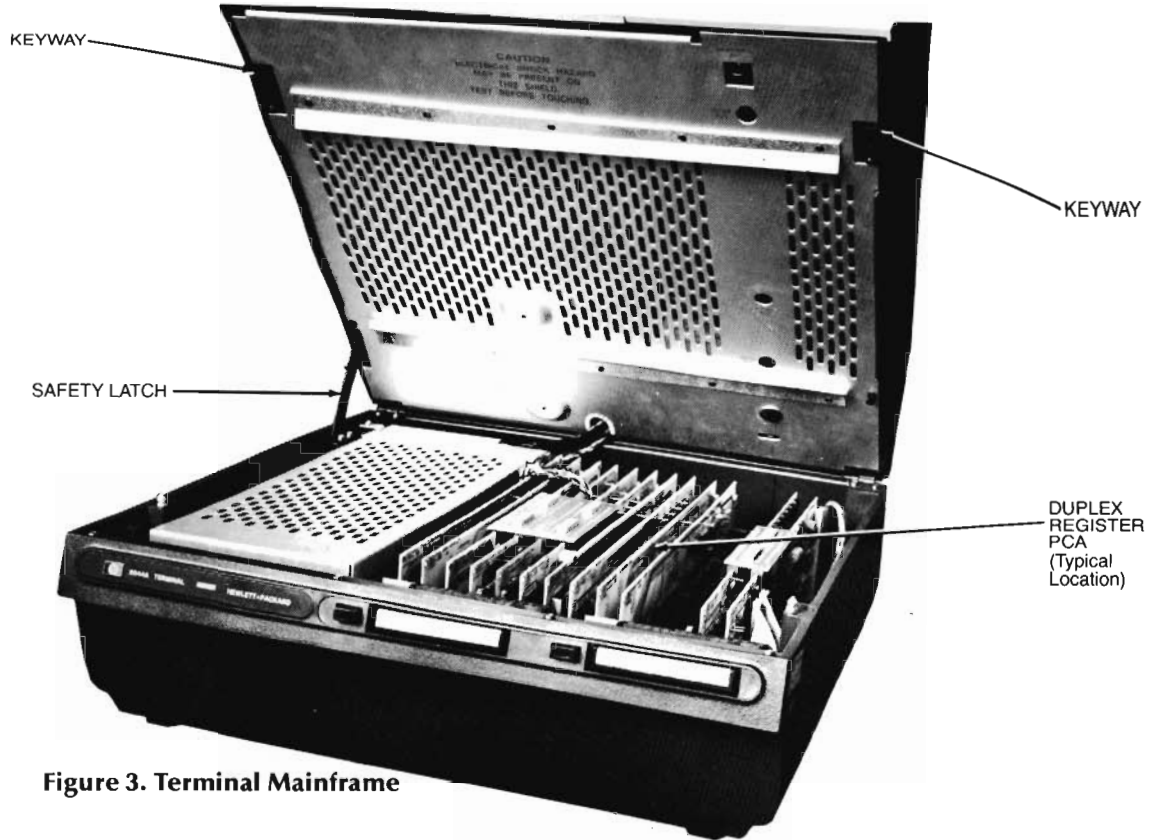

Figure 3. Terminal Mainframe
- c. Using the access key supplied with the terminal, insert access key into keyway (figure 3) located on the right side of the top cover. Inserting key into keyway will unlock top cover; no key rotation is required.
- g. Install terminal duplex register PCA in first vacant backplane assembly connector adjacent to existing PCA's in the terminal (figure 3).
- j. Firmly grasp mainframe top cover in one hand and release safety latch (figure 3) by pressing it inboard with other hand. Then, using both hands, carefully lower top cover to its closed position.